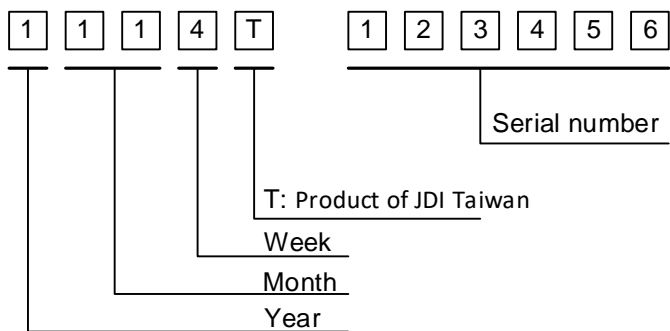

Fig. 13.1
1) The lot mark is showing in Fig.13.1. First 4 digits are used to represent production lot, T represented product of JDI Taiwan, and the last 6 digits are the serial number.